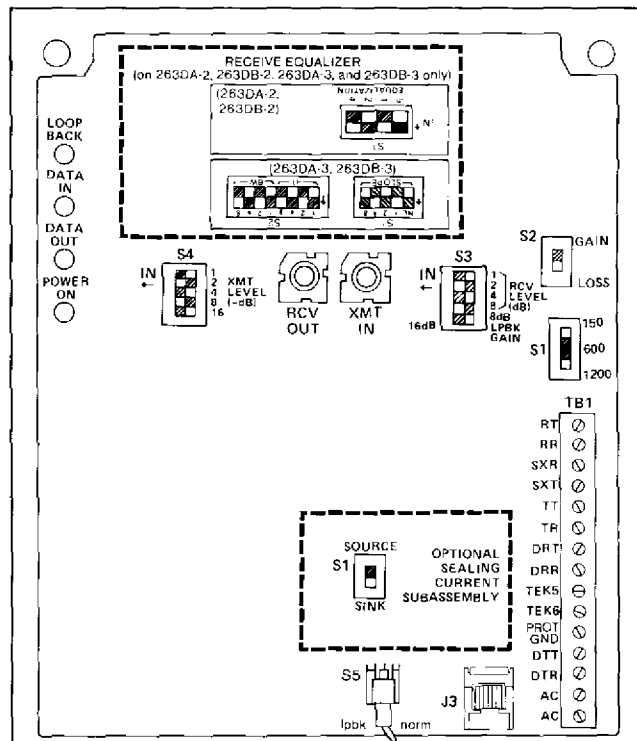

figure 7. 263DA and 263DB option switch locations
3.07 Optioning the 263DA and 263DB consists of selecting the facility-side port impedance, selecting the loopback-path gain, and, when the optional sealing-current subassembly is used, selecting internal sealing current or a return path for distant-end sealing current. Locations of the option switches on the DST unit and the sealing-current subassembly are shown in figure 7. Table 6 summarizes the functions and settings of each option switch and includes a convenient optioning checklist. The checklist can be filled out (by checking the appropriate box for each switch) either prior to installation to allow for prescription optioning of the unit, or as the unit is being optioned to provide a record for future reference. Detailed instructions for optioning the 263DA and 263DB are provided in paragraphs 3.08 through 3.10.